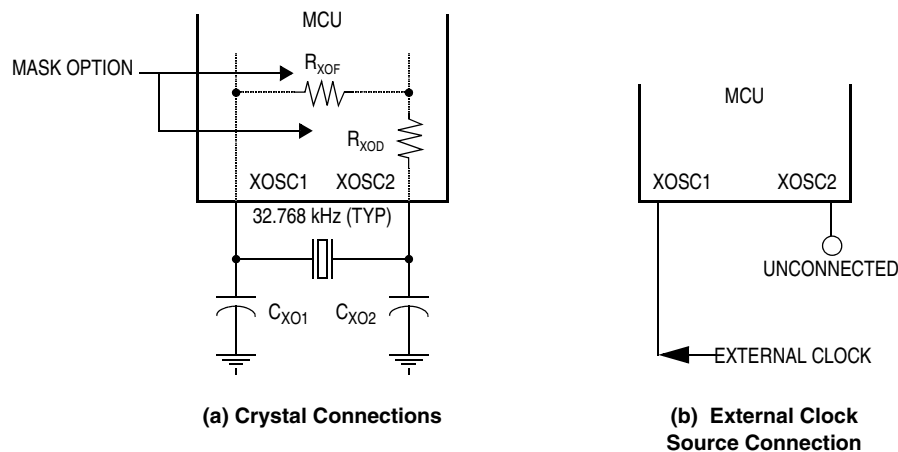

Figure 1-5. Oscillator Connections
1. A crystal as shown in Figure 1-5\(a\)
2. An external clock signal as shown in Figure 1-5\(b\)
The circuit in Figure 1-5\(a\) shows a typical 2-pin oscillator circuit for a 32.768-kHz “watch” crystal. The crystal manufacturer's recommendations should be followed, since the crystal parameters determine the external component values required to provide maximum stability and reliable startup. The load capacitance values used in the oscillator circuit design should include all stray capacitances. The crystal and components should be mounted as close as possible to the pins for start-up stabilization and to
As shown in Figure 1-5\(b\), an external clock from another CMOS-compatible device can be connected to the XOSC1 input (with the XOSC2 output not connected). This configuration is possible regardless of the oscillator setup.